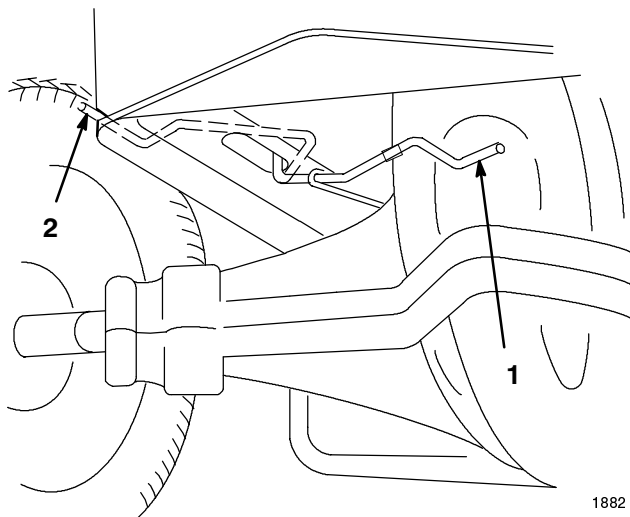

Figure 2
2. Place the drive control in the "Push" position (Fig. 2).
3. Run engine at a low idle and move traction control pedal forward for five (5) seconds then reverse for five (5) seconds. Repeat three (3) times.
4. Place the drive control in the "Operate" position (Fig. 2). Drive the tractor forward then reverse approximately five (5) feet. Repeat three (3) times.